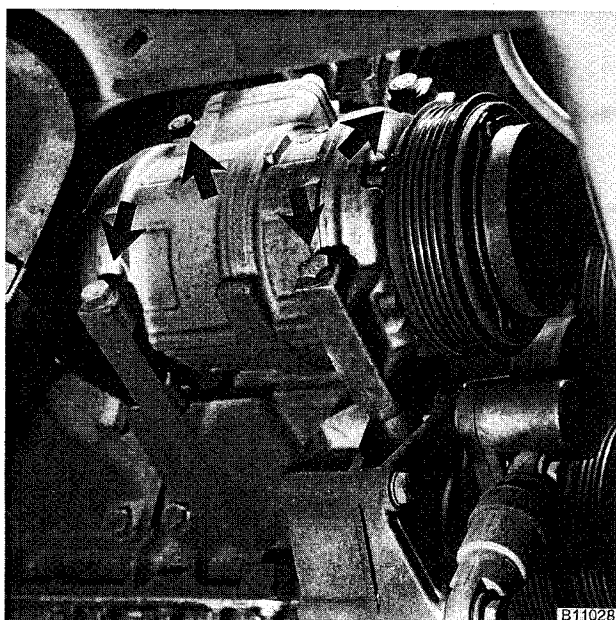

Fig. 5. A/C compressor mounting bolts (arrows).
17. Remove A/C compressor from its mounting bracket without disconnecting any refrigerant lines. See Fig. 5.